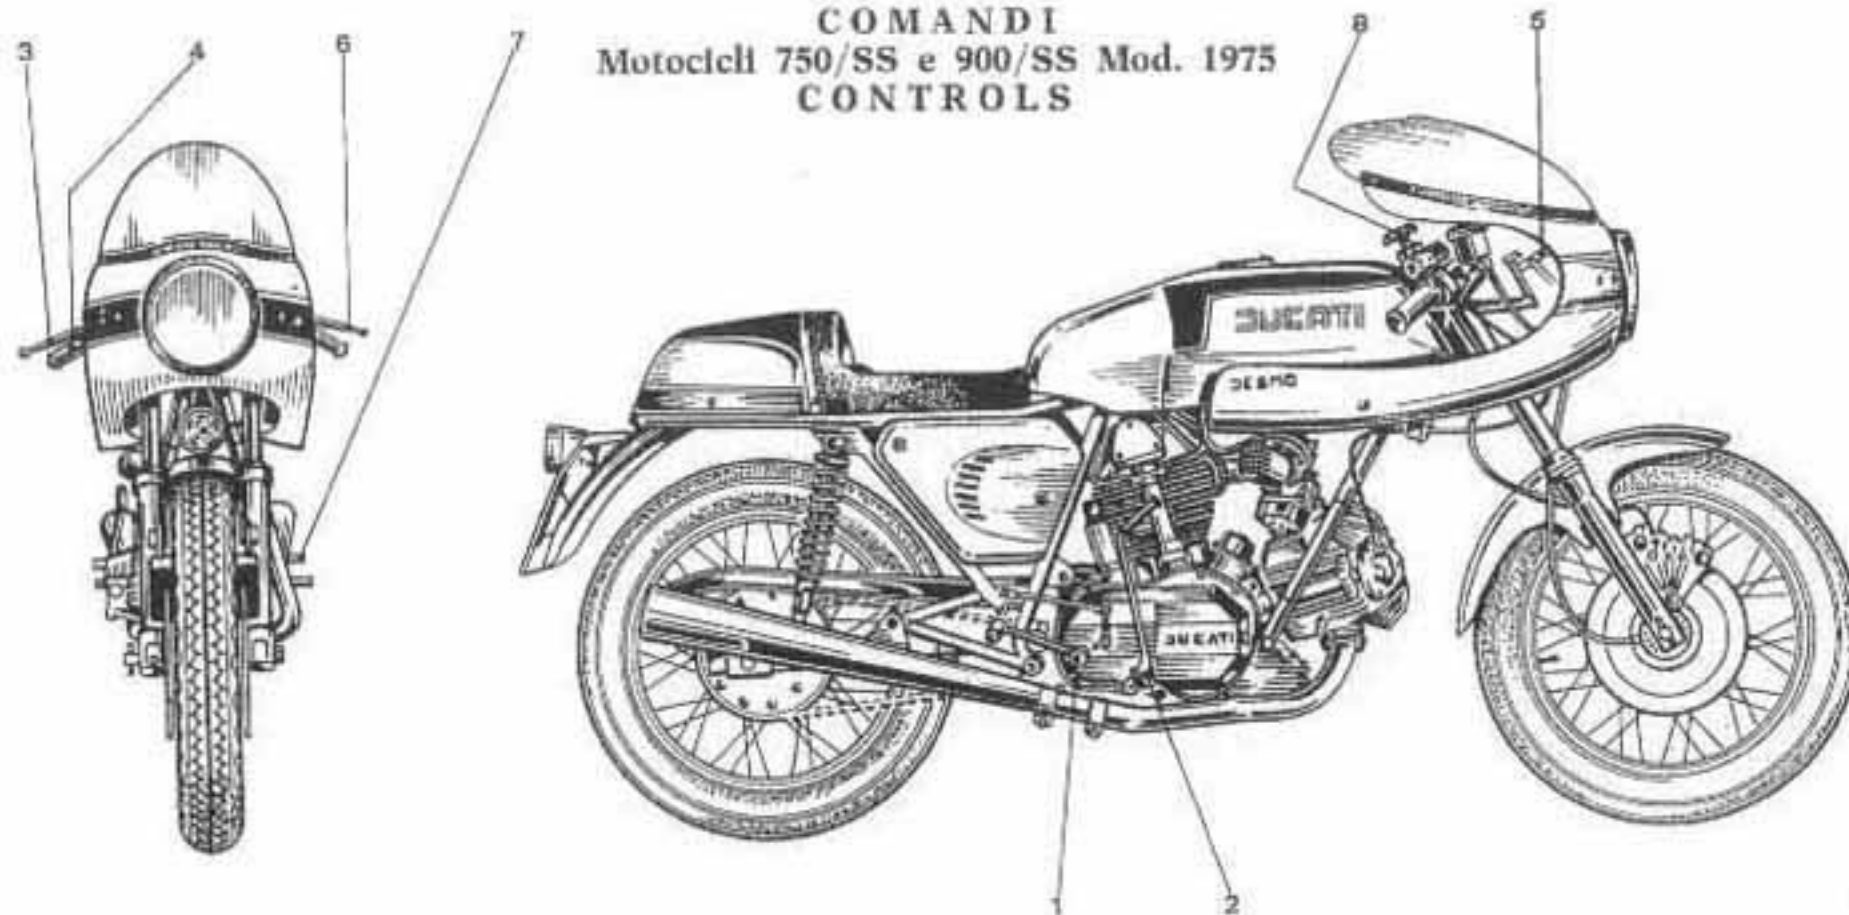

Fig. 1
**Comandi** (vedi fig. 1)
**Controls** (see fig. 1)